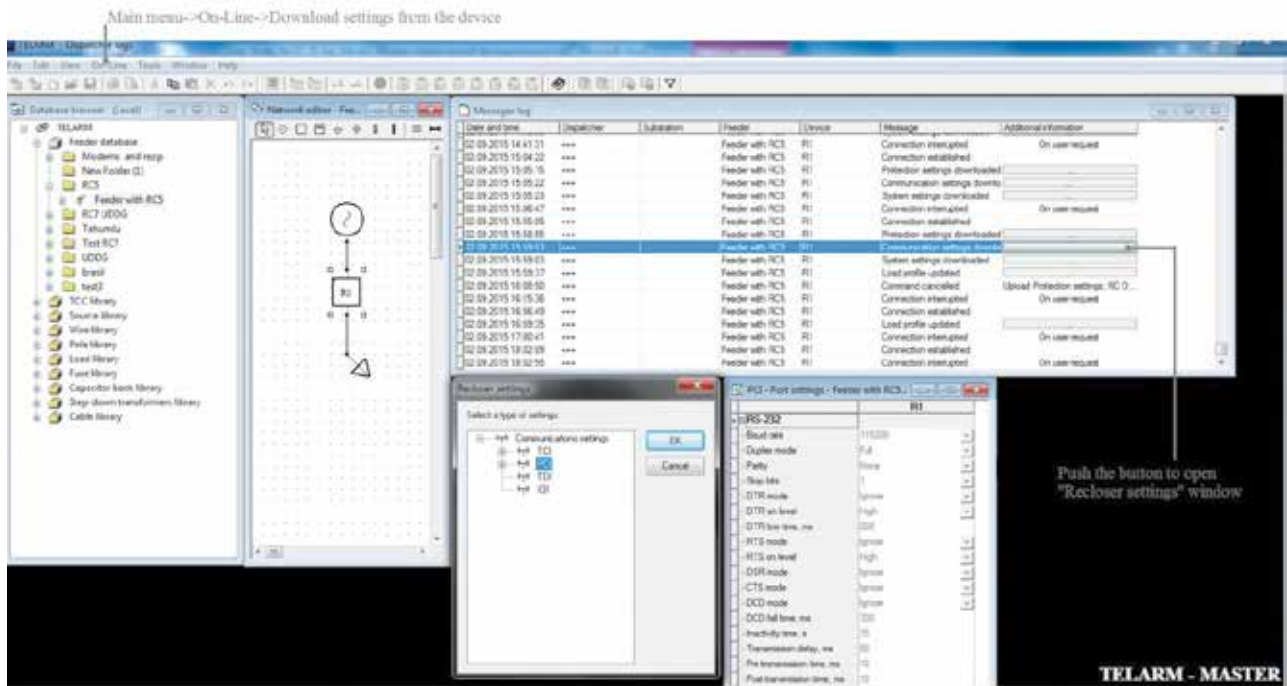

Figure 44
- 3) Select "Main Menu -> On-Line -> Download settings from device" (Figure 44).
- In "Connection log" if downloaded via the PCI (see Figure 44);
- in "Connection log" if downloaded via PCI (see Figure 44)